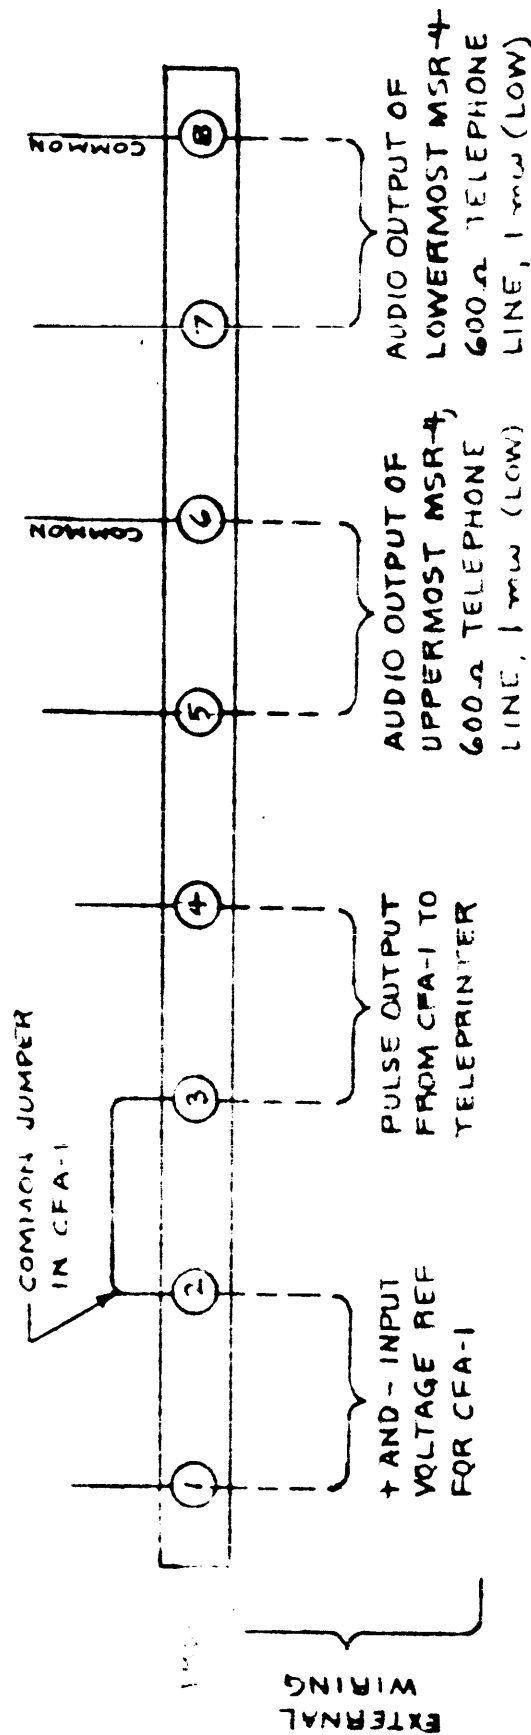

FIGURE 2-5. CONNECTION DIAGRAM, EXTERNAL EQUIPMENT TO DDR-6H
g. AUXILIARY 600/8-OHM AUDIO OUTPUTS - On the rear of each MSR-4 chassis is an MS3102A-14S-2P receptacle furnished with mating MS3106-14S-2S plug (see Table E, Appendix). As shown in figure 2-5, the plug may be wired for any or all of the following auxiliary outputs with the MSR-4 top chassis OUTPUT LEVEL switch in the following positions: